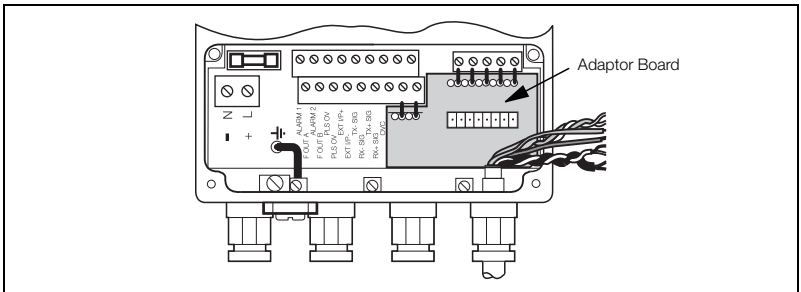

Fig. 4.2 Fitting the Adaptor Board
3. Carefully ease the sensor wiring to one side and fit the adaptor board so that the extended pins fit into the terminals – see Fig. 4.2. Tighten the terminal screws.